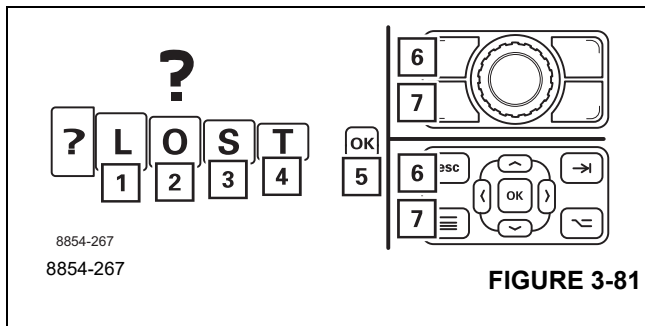

FIGURE 3-81
- Select and confirm the L-O-S-T password using Items 1 to 4 in (Figure 3-81).
- Confirm the entry with the symbol (5).